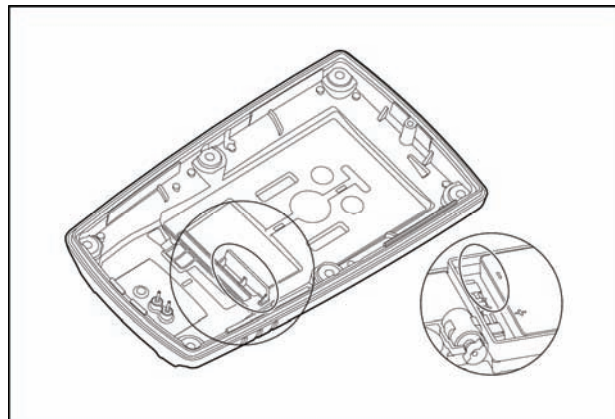

Figure 6. Replacing the Rear Shell
- Ensure the rib on the interior of the rear shell fits between the battery pack and the PCB as shown in Figure 6.